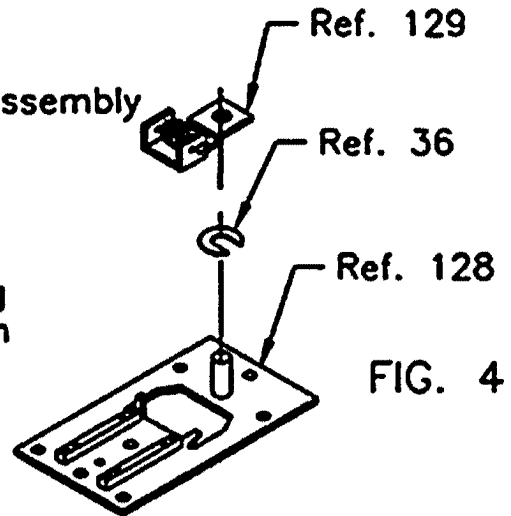

FIG. 4
4. Place one thick shim washer (Ref. 36) over pivot and beneath adjusting gear bracket (Ref. 129). See FIG. 4.